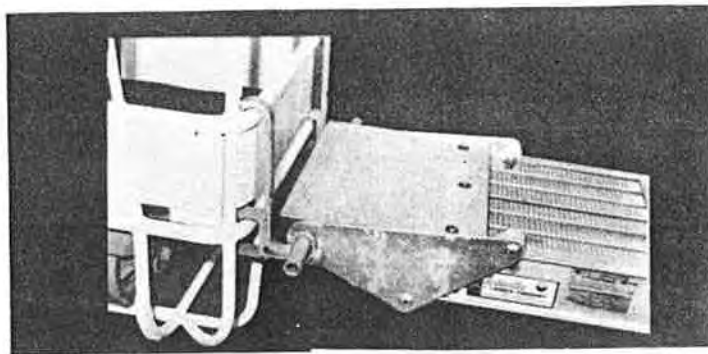

Figure 26
- Ladder Type Aluminum Planks To Model ST-17 or ST-18 (Fig. 26)**